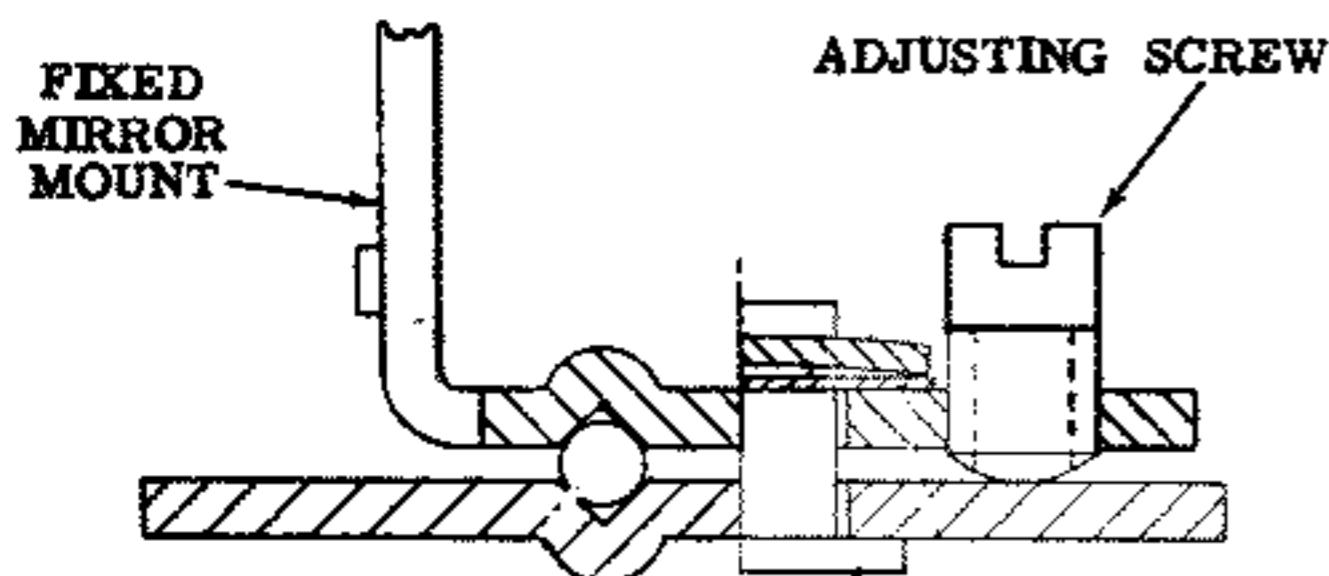

Figure 8. DOUBLE IMAGE ADJUSTMENT
c. To set rangefinder infinity, sight the rangefinder on a target of 500 feet or more. Move the yoke forward about  $\frac{1}{8}$  inch and lock the yoke with lever on front right corner. Adjust the moveable mirror shaft by loosening the  $\frac{3}{16}$  inch hexagonal rangefinder arm screw. Turn the mirror mount while observing the movable image in the fixed mirror. When the images are aligned, tighten the hex head screw. Adjust double vision by turning the set screw on the fixed mirror mount (figure 8). Observe infinity and readjust if necessary. Remove master cam.